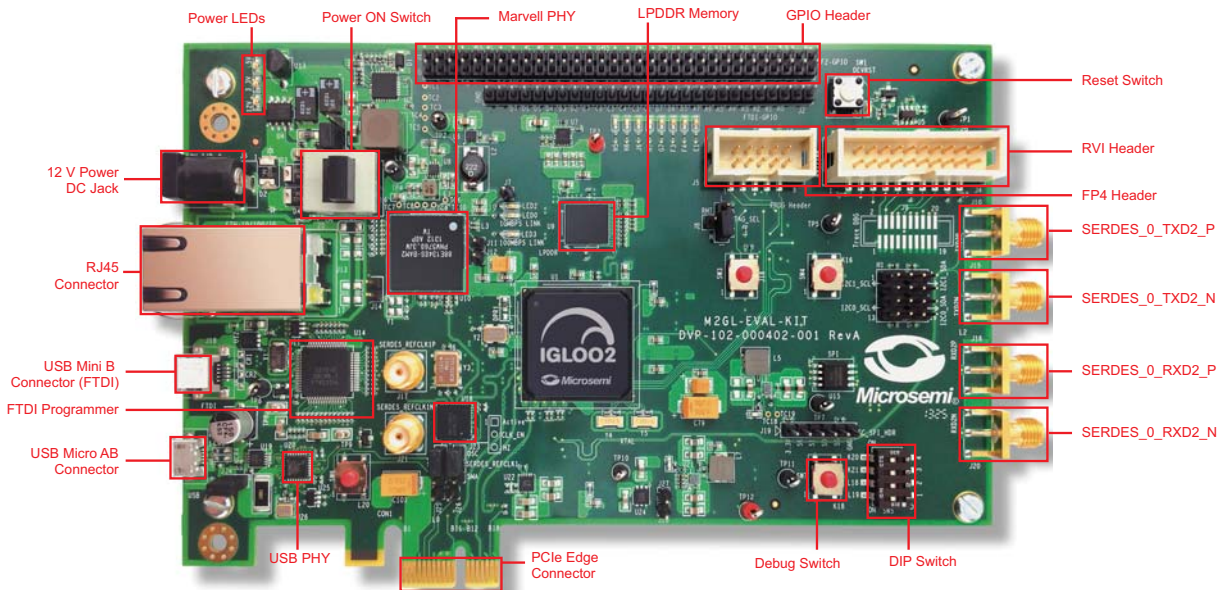

Figure 6 • IGLOO2 Evaluation Kit
8. Figure 6 shows the IGLOO2 Evaluation board.